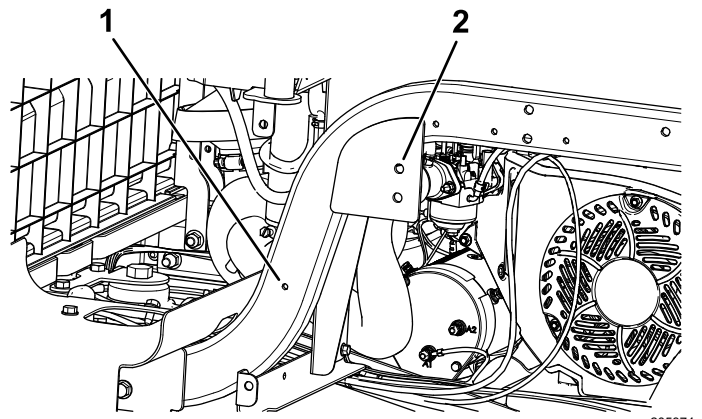

Figure 20
1. Align a ROPS bracket with the 2 holes behind the seat base and the hole toward the front of the frame rail as shown in Figure 20.
3. Mark the hole locations on the ROPS bracket (Figure 20).